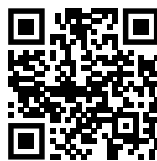

Fig. 115
- ▶ Ouvrez le Liebherr SmartMonitoring Dashboard. (voir Fig. 115) .